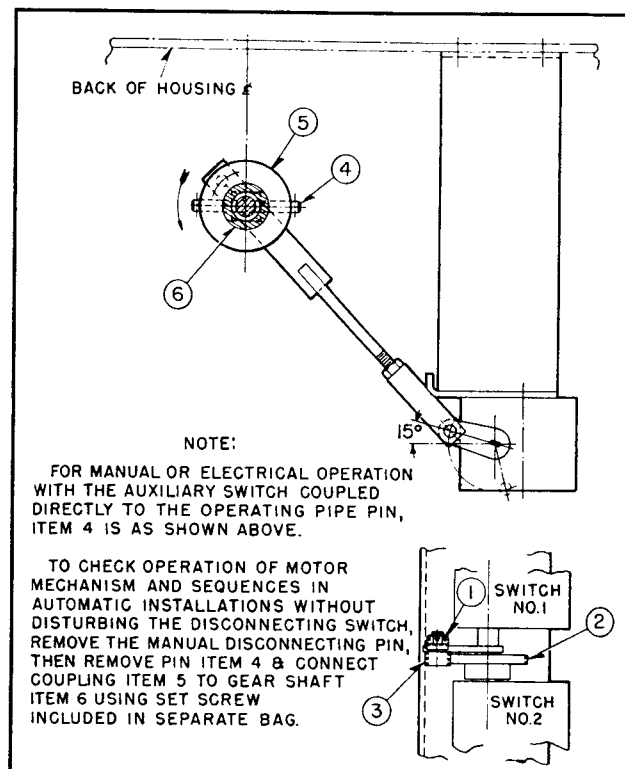

FIG. 5. Auxiliary Switch Adjustment
The contact position of the lower switch is adjustable through an infinite range. To adjust the lower switch, the elastic stop nut item (1) Fig. 5 is loosened and the spur gear item (2) is used to adjust the contact position on the lower switch. Switch 2 is then securely pinned to switch 1 by tightening the elastic stop nut item (1) thus securing the pinion gear item (3).